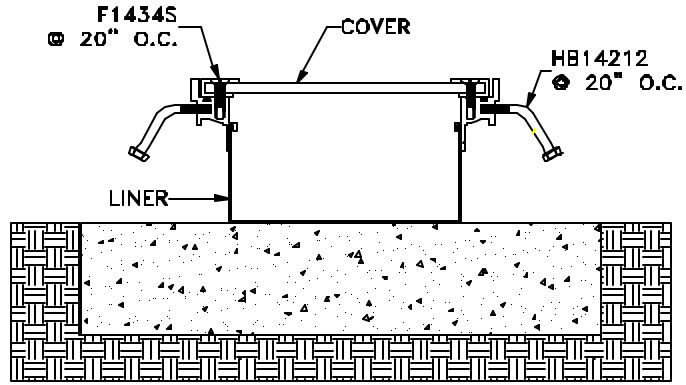

Figure 4
STEP 5. Assemble the trench cover on the support pad, splicing the liner and frame sections of the assembly in accordance with the procedures provided in the appropriate sections of these installation instructions (see Figure 4).